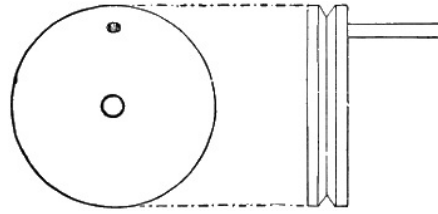

FIG 3
Make the small wheel out of a cotton-reel about an inch or an inch and a quarter in diameter. Cut off the ends and cut the other part into slices a quarter of an inch wide, and cut a groove about an eighth of an inch deep all round each (as Fig. 3). On one side of each of these pieces fix a short wire about three-quarters of an inch long near the edge; this wire will serve as a handle to turn the wheel by. Fasten this small wheel to the board by a screw that fits easily into the hole in the centre, without too much play (Fig. 4). Put the circular glass and frame in its place and glue a piece of wood (A, Fig. 4), about two inches wide and a quarter of an inch thick, to the wooden half of frame. Get two small glass beads about a quarter of an inch long and an eighth of an inch wide. Put a wire about an inch long through each, and bend the wires as in Fig. 5. Sharpen the ends and press them into the edge of the wood (A, Fig. 4, B B), so that the beads will turn easily without touching the wood. Cut away a semicircular portion of the end of the frame (Fig. 4) and fasten a small button made of brass plate in it, and fasten another button to the wood (A). These buttons will keep the circular frame in its place. Connect the two wheels with a piece of strong twine, not too thick, going round them both, and fasten the ends by lapping them and sewing them together. Now if you turn the small wheel the large circular frame will turn round in the same direction if your work is well done. The edge of the circular frame must not touch anything but the glass it rests on, the two beads, and the two buttons. The view is painted on the inside of the fixed glass, and the revolving portion is painted on the under side of the circular glass. In Fig. 4 the mill and background are painted on the fixed glass, and the sails on the movable one.